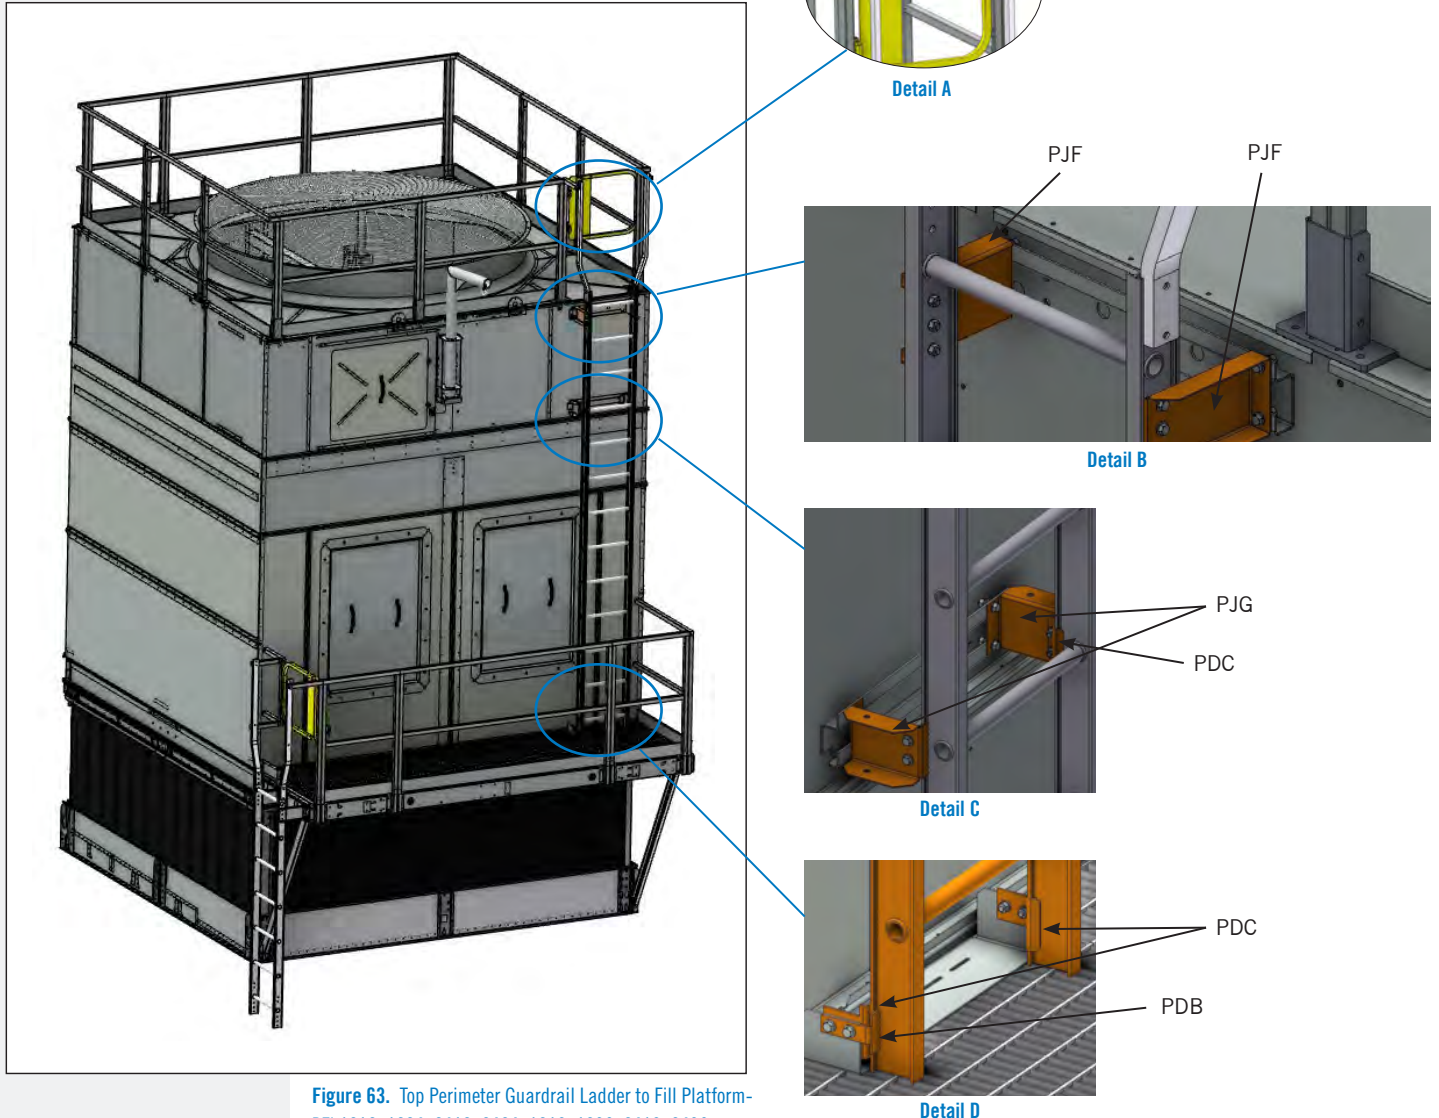

Figure 63. Top Perimeter Guardrail Ladder to Fill Platform- PFi 1212, 1224, 2412, 2424, 1218, 1236, 2418, 2436, 1220, 1240, 2420, 2440
1. Attach the upper ladder supports PJF to the ladder(s) if not already installed and then attach the ladder assembly to the platform using the 3/8" bolts provided. See **Figure 63, Detail B**.
2. Secure the ladder flares to the railing posts using the 5/16" bolts provided. See **Figure 63, Detail A**.
3. Install the lower Mechanical section ladder supports PJG using the 3/8" bolts provided. Secure to the ladder(s) using ladder clamps PDC. See **Figure 63, Detail C**.
4. Secure the ladder(s) to the factory installed bracket(s) on the Fill Platform with the ladder clamps PDC and PDB. Use the 3/8" bolts provided. See **Figure 63, Detail D**.